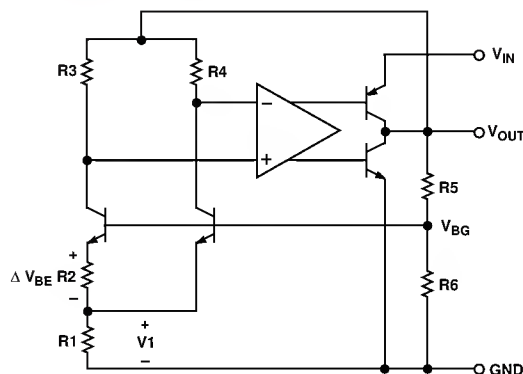

Figure 8. Simplified Schematic
The AD1582/AD1583/AD1584/AD1585 family uses the “bandgap” concept to produce stable, low temperature coefficient voltage references suitable for high accuracy data acquisition components and systems. This family of precision references makes use of the underlying temperature characteristics of a silicon transistor’s base-emitter voltage in the forward biased operating region. Under this condition, all such transistors have a $-2 \text{ mV}/^\circ\text{C}$ temperature coefficient (TC) and a V_{BE} that, when extrapolated to absolute zero, 0°K , (with collector current proportional to absolute temperature) approximates the silicon bandgap voltage. By summing a voltage that has an equal and opposite temperature coefficient of $+2 \text{ mV}/^\circ\text{C}$ with the V_{BE} of a forward-biased transistor, a zero TC reference can be developed. In the AD1582/AD1583/AD1584/AD1585 simplified circuit diagram shown in Figure 8, such a compensating voltage, V_1 , is derived by driving two transistors at different current densities and amplifying the resultant V_{BE} difference (ΔV_{BE} —which has a positive TC). The sum (V_{BG}) of V_{BE} and V_1 is then buffered and amplified to produce stable reference voltage outputs of 2.5 V, 3 V, 4.096 V, and 5 V.